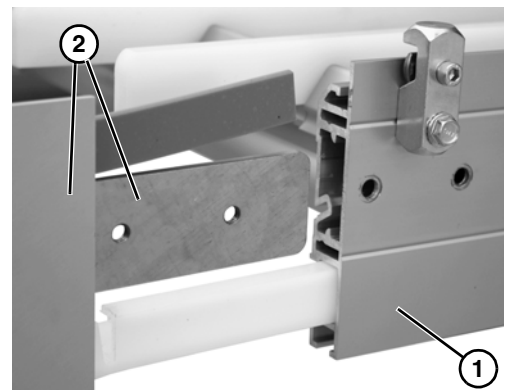

Figure 79
3. Separate conveyor frame (**Figure 79, item 1**) from knuckle assembly (**Figure 79, item 2**).